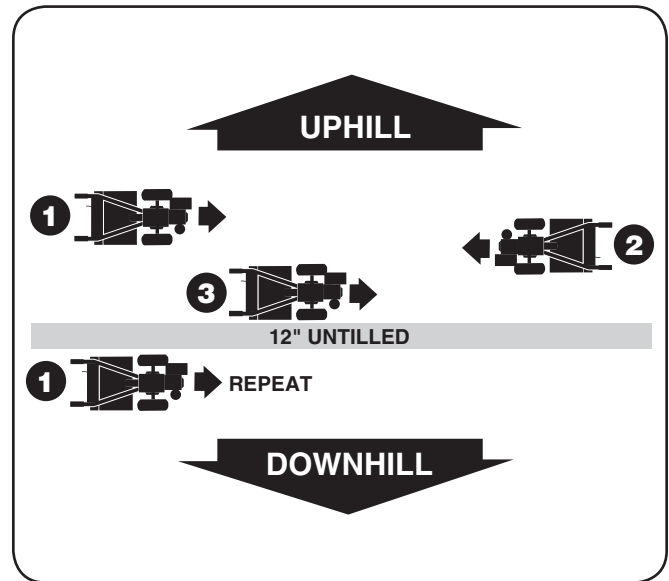

Figure 5-9
- To create a terrace, start at the top of the slope and work down. Go back and forth across the first row as shown in Fig. 5-9.